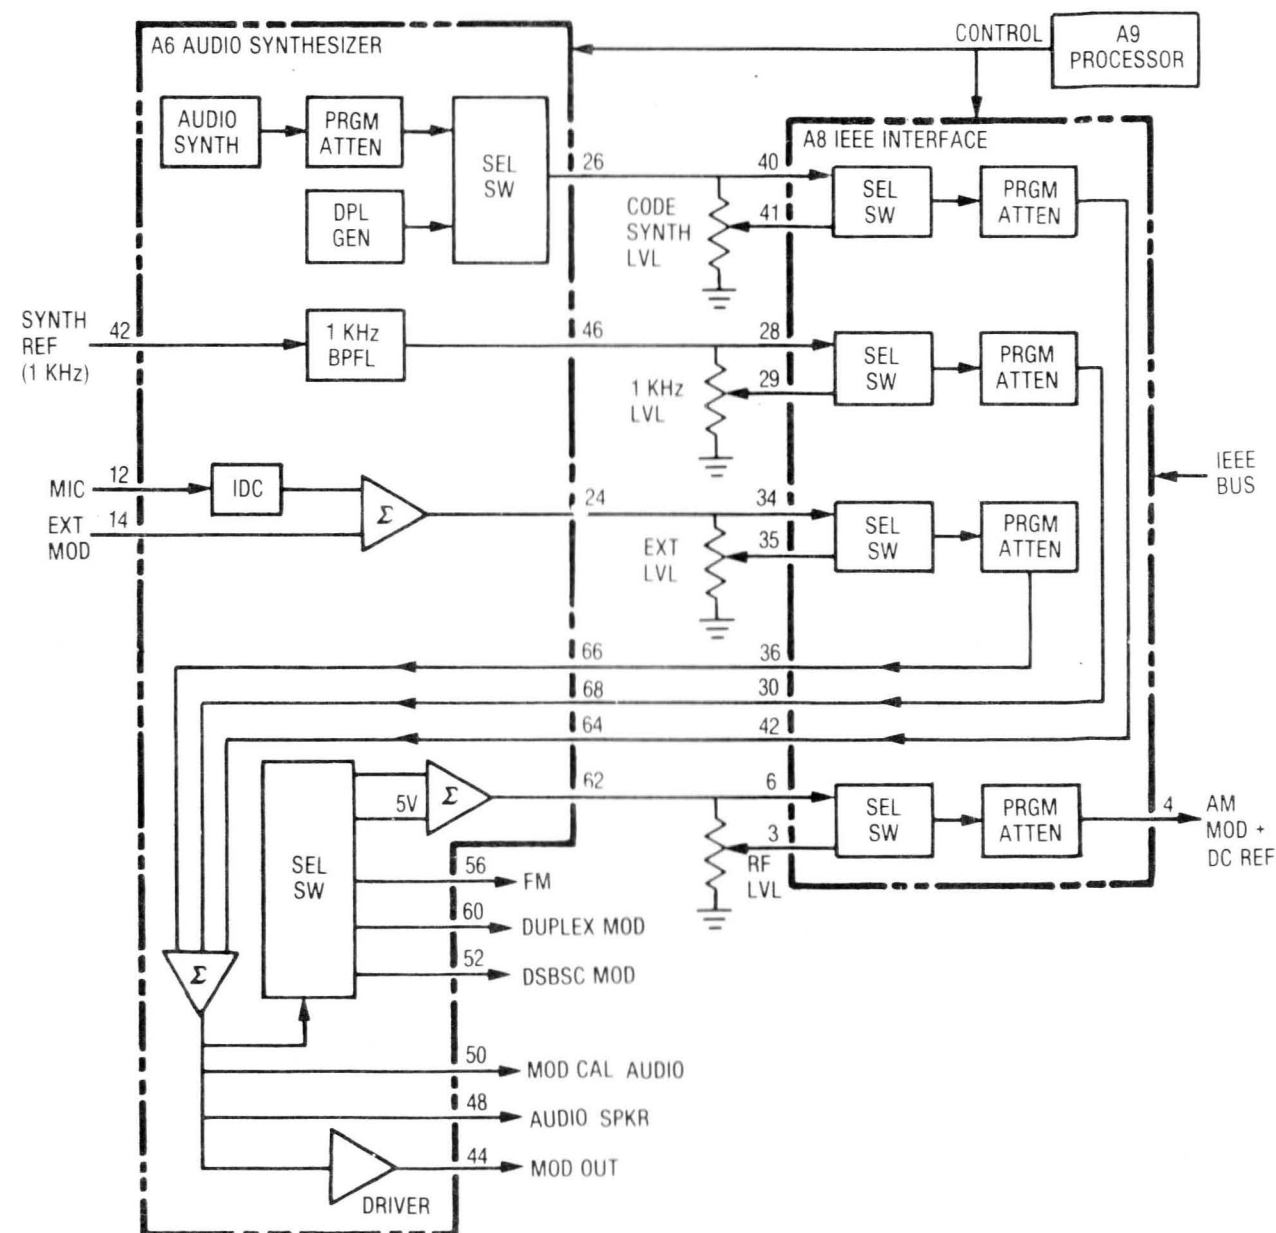

Figure 5-8. Code Synthesizer Block Diagram
5-57. Three simultaneous modulation sources are possible with the internal Code Synthesizer. A private line (PL) or Digital Private Line (DPL) source, a fixed 1 kHz source, and external modulation sources are individually level controllable and summed together to give the composite modulation audio. The Code Synthesizer provides the modulation source for the system in the generate mode and can be used as an audio frequency source when in the monitor mode. For the IEEE option a provision is made to allow processor control of the modulation levels. A block diagram of the Code Synthesizer is shown in figure 5-8.